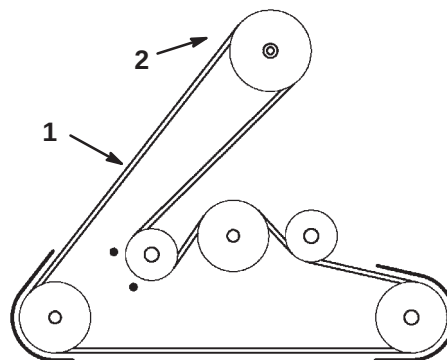

Figure 5
3. Install the mower belt onto the electric clutch pulley (Fig. 5).